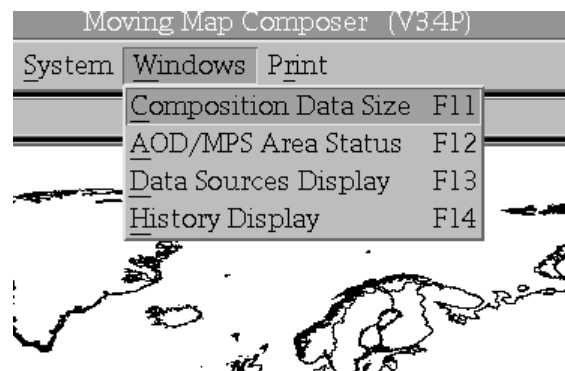
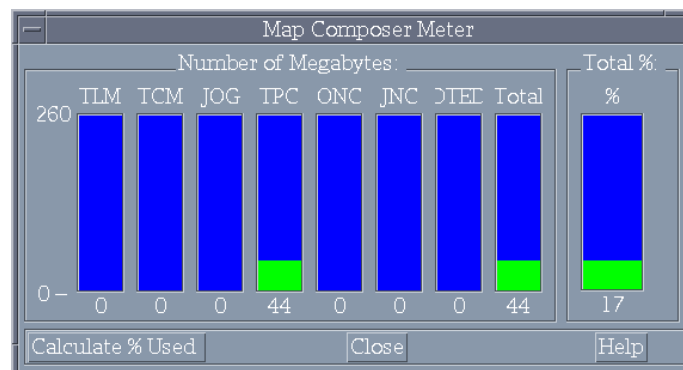

Fig. 14 – Windows Menu
Fig. 15 – Composition size with limits
- To check the size of the composition, from the main menu, click on *Windows*, and then *Composition Data Size* (Fig. 14) to see a meter showing how much space has been used (Fig. 15).
- iii. To check the size of the composition, from the main menu, click on *Windows*, and then *Composition Data Size* (Fig. 14) to see how much space has been used (Fig. 15).